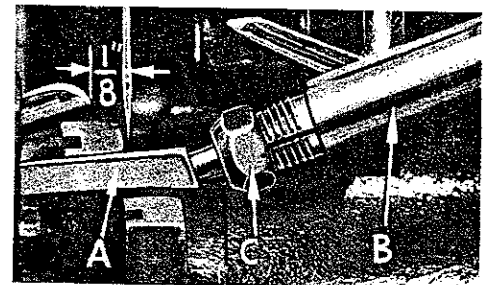
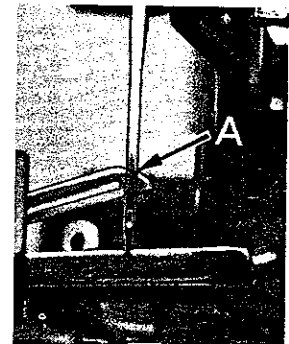

Fig. 5
Fig. 7
At this point, insert lower looper (A, Fig. 5) into bar (B). With lower looper at left end of its stroke, set looper point $\frac{1}{8}$ inch from center of needle (Fig. 5), using looper gauge No. 21225- $\frac{1}{8}$, on Styles 39500 FS, FT, FU, GT and JP. On Styles 39500 GD and GL, with lower looper at left end of its stroke, set looper point $\frac{1}{16}$ inch from center of left needle, using looper gauge No. 21225- $\frac{1}{16}$. Now assemble differential (front) feed dog.
Now finish lower looper adjustment. As lower looper moves to the right, its point should be set into the needle scarf (A, Fig. 7) until the needle springs forward from rear guard surface another .002-.004 inch. Tighten nut (C, Fig. 5) securely.